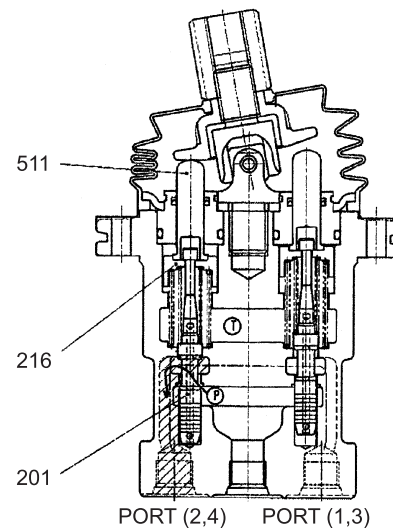

Fig. 24-60 When the lever is tilted
(2) When the pilot lever is tilted (See Fig. 24-60)